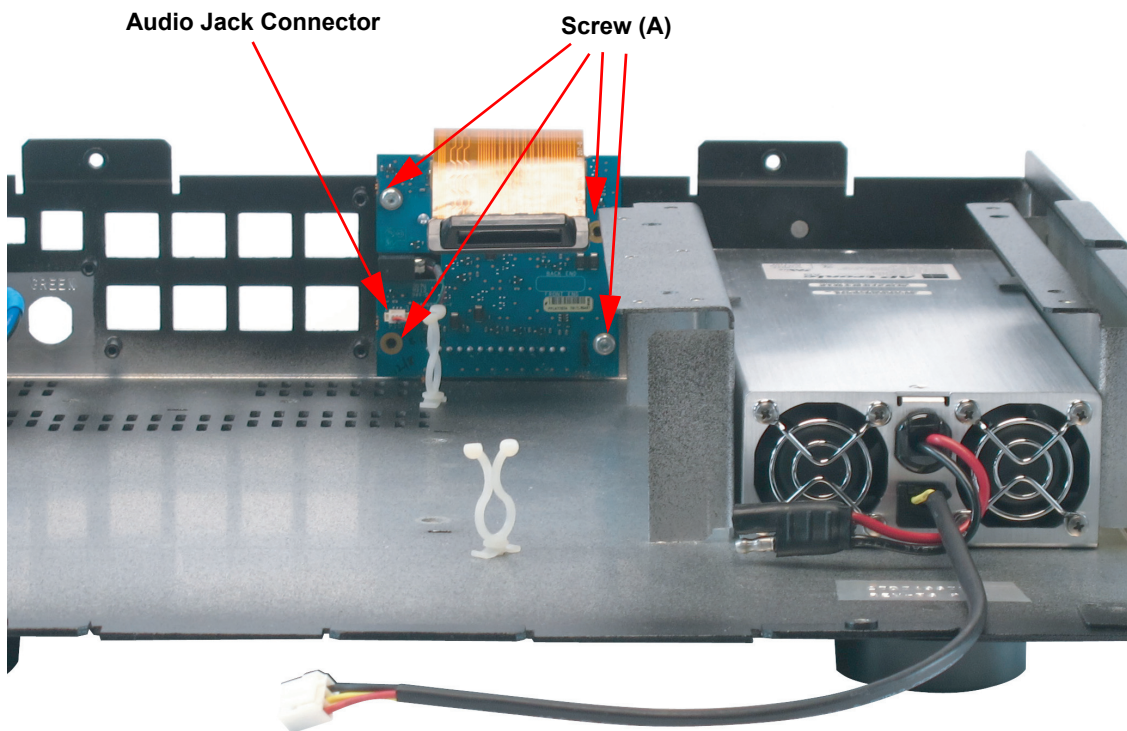

Figure 5-7. Removing and Replacing Low Speed Board
2. Remove the four screws (A) on the Low Speed Board assembly as shown in Figure 5-7 using a T15 TORX™ driver.
3. Install the four screws (A) on the Low Speed Board assembly as shown in Figure 5-7 using a T15 TORX™ driver.